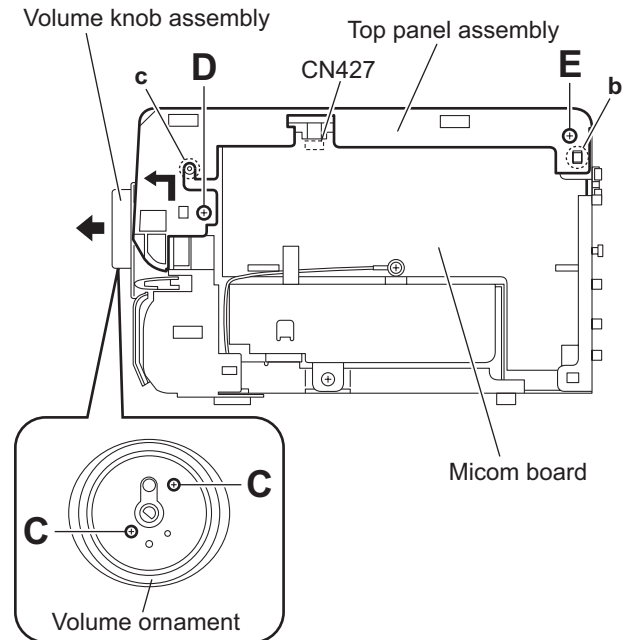

Fig.5
3.1.2 Removing the top panel assembly (See Figs.5 to 6)
- (1) From the front side of the main body, pull out the volume knob assembly in the direction of the arrow. (See Fig.5.)
- (2) Remove the two screws **C** and remove the volume ornament. (See Fig.5.)
- (3) From the both sides of the main body, remove the two screws **D**, two screws **E** and screw **F**. (See Figs.5 and 6)
- (5) Release the joints **b** and remove the joints **c** in the direction of the arrow. (See Figs.5 and 6.)
- (6) Disconnect the card wire from the connector **CN427** on the micom board while lifting the top panel assembly. (See Fig.5.)